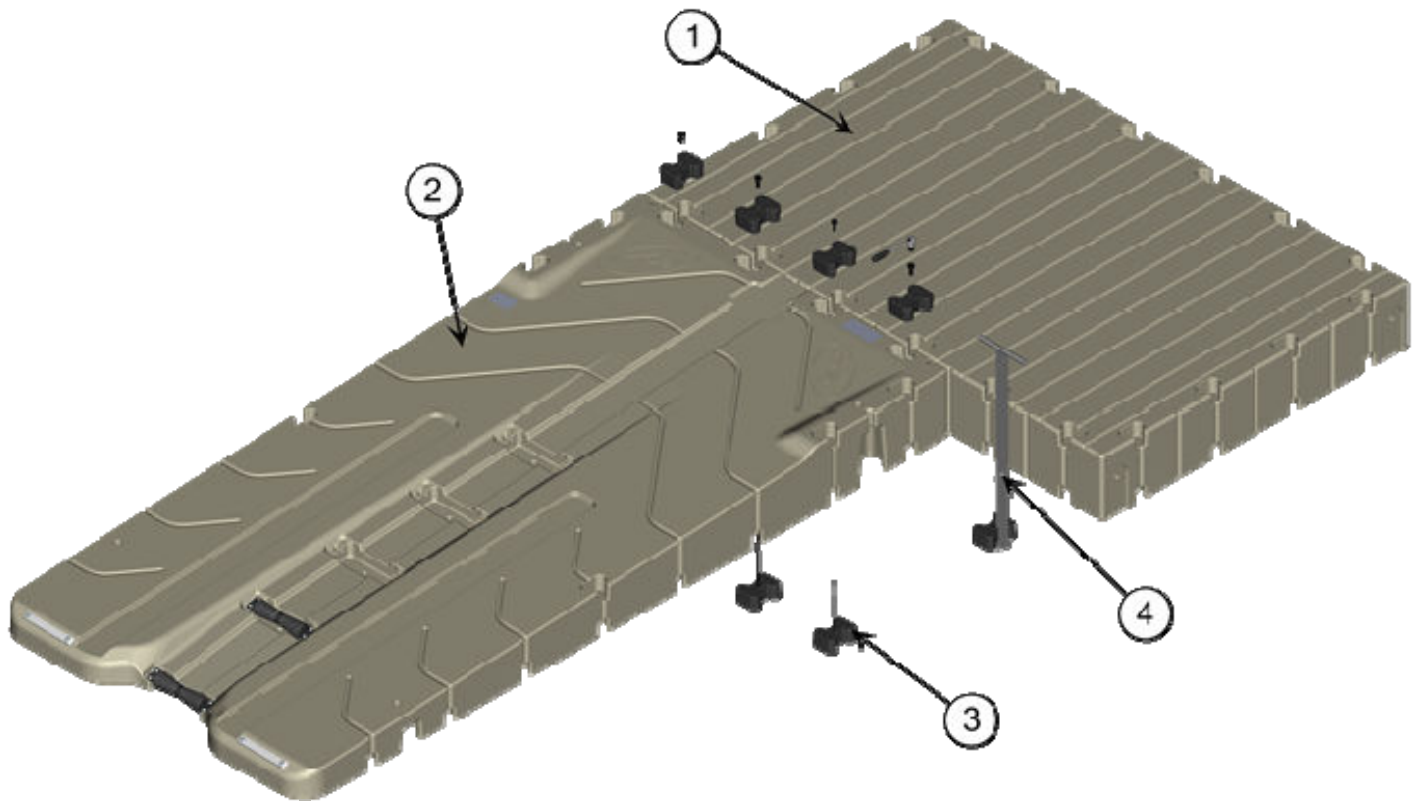

Figure 3.
The EZ BoatPort mounts to existing or new EZ Dock installations using standard EZ Dock couplers (301100). It can be connected at the front four (4) pockets as shown in Figure 3 and/or the front two (2) side pockets on each side of the EZ BoatPort.